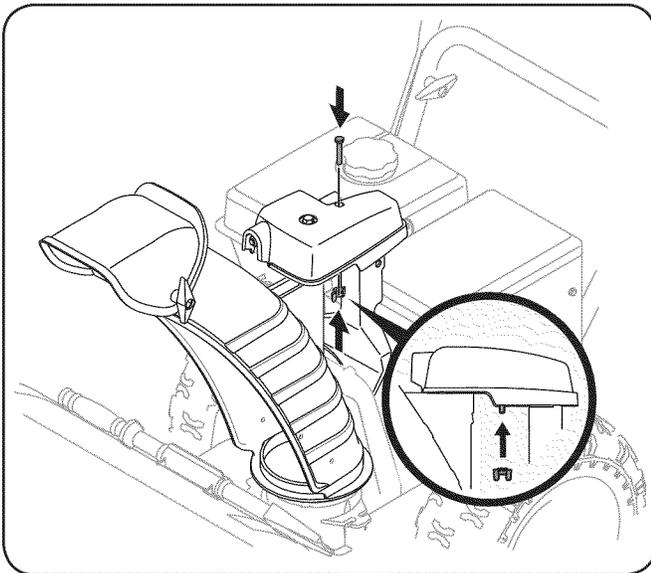

Figure 3-14
- Finish securing chute control assembly to chute support bracket with wing nut and hex screw removed earlier. See Fig. 3-14.